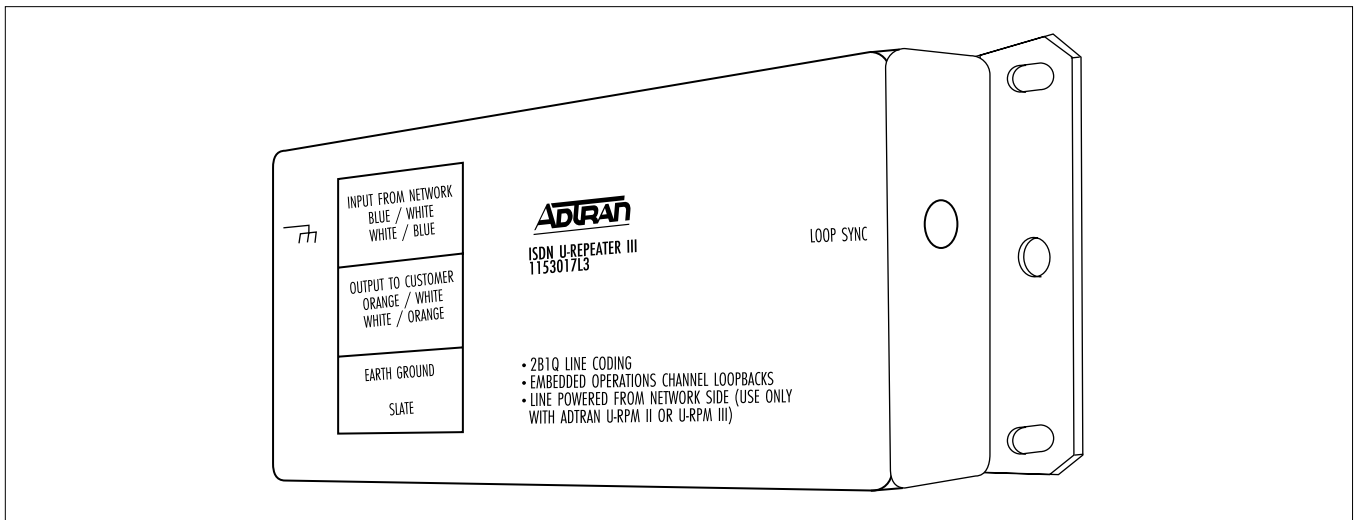

Figure 3. Loop Sync Indicator
3.1 A green LED at the rear of the unit is provided to aid in circuit turn up and diagnostics (see **Figure 3**). The indications provided by this LED are described in **Table C**.